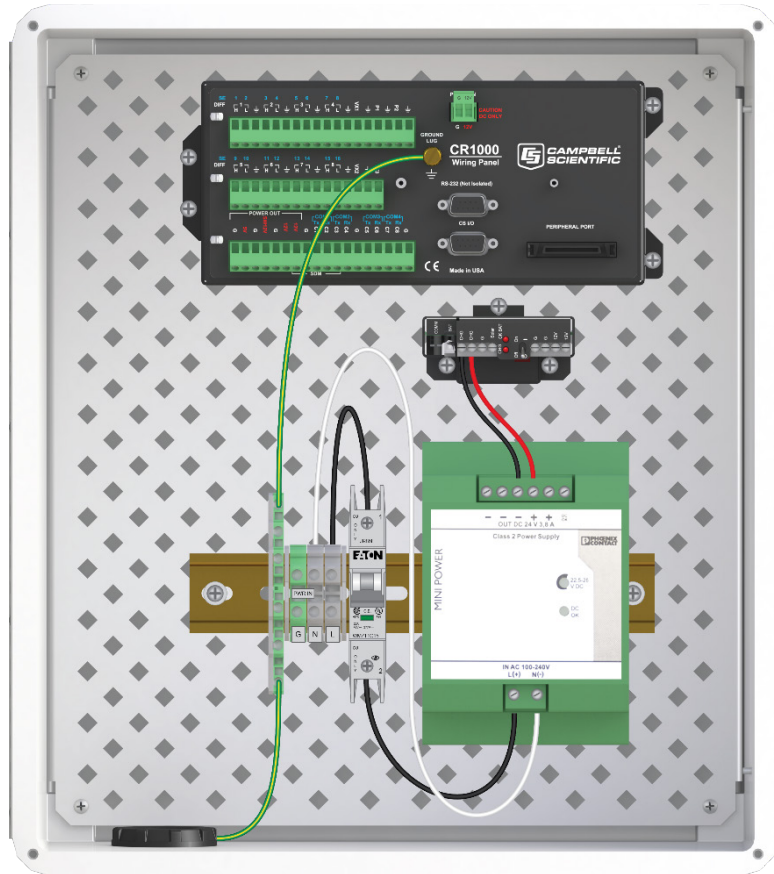

FIGURE 5-8. Connecting the power supply to the charging regulator
7. Use the included 16 AWG red and black wires to connect the output (+) and (-) terminals of the power supply to the two (2) CHG inputs on the CH150, or CH200 (not included in the kit). See FIGURE 5-8. The **G** and **Solar** terminals on the charging regulator are used when power input is from a solar panel. Use the red wire for the + terminal and the black wire for the - terminal